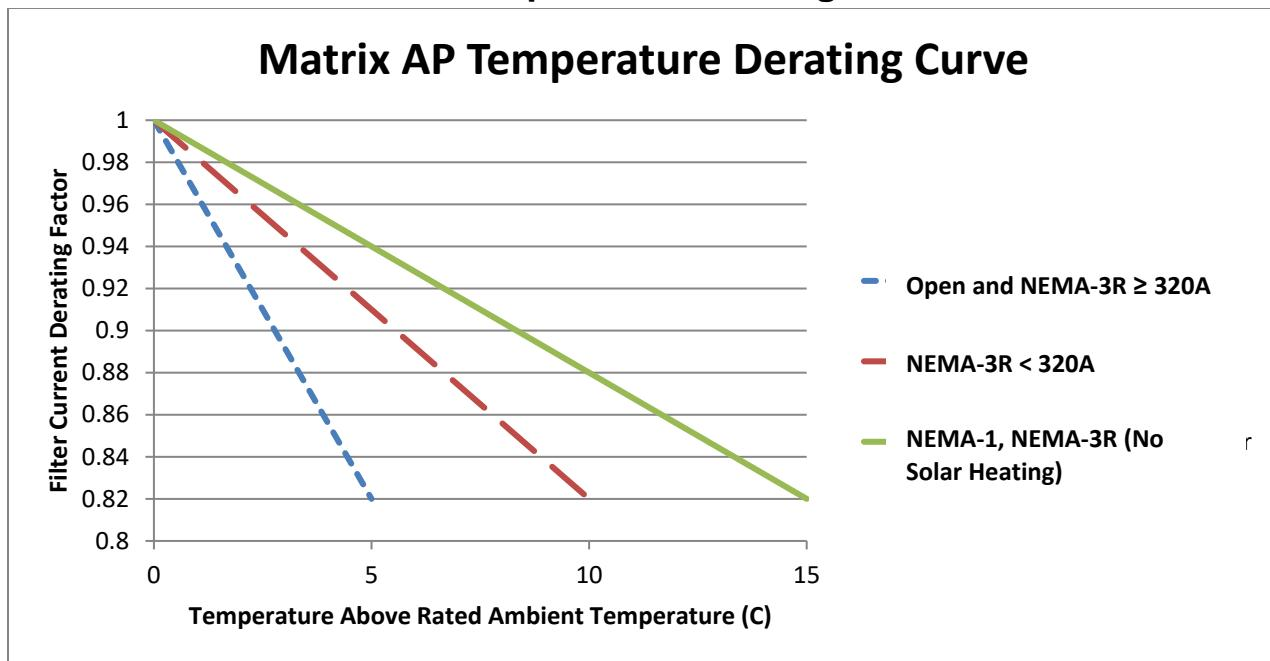

Figure 3-5: Temperature Derating
- Temperature:** See Table 3-1: Performance Specifications (p5) for specification, and Figure 3-5: Temperature Derating (p13) for temperature derating.